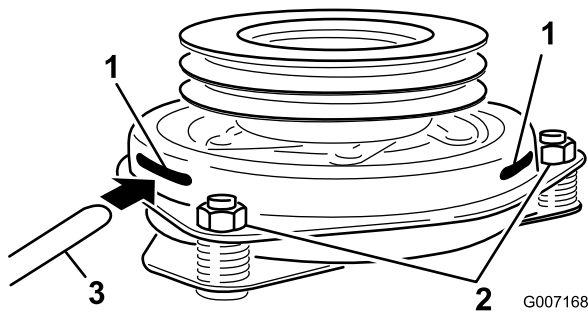

Figure 53
9. Insert a 0.015–0.021 inch (0.381–0.533 mm) feeler gauge through one inspection slot in the side of the assembly. Make sure it is between the armature and the rotor friction surfaces (Figure 53).
10. Tighten the lock nuts until there is slight binding on the feeler gauge but it can be moved easily within the air gap (Figure 53).